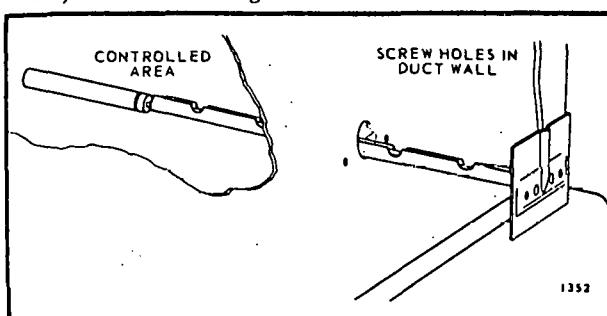

FIG. 5-INSERTION INTO DUCT.
5. Insert bulb and holder into controlled area through hole prepared in Step 1 (Fig. 5).